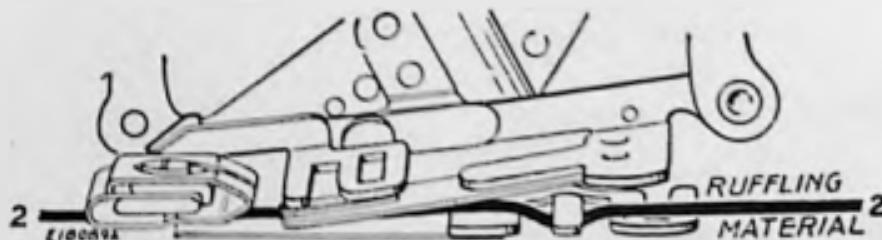

FIG. 70. CORRECT POSITION FOR THE MATERIAL
(2) Insert the material to be plaited between the two blue blades **Line 2**, Fig. 70.